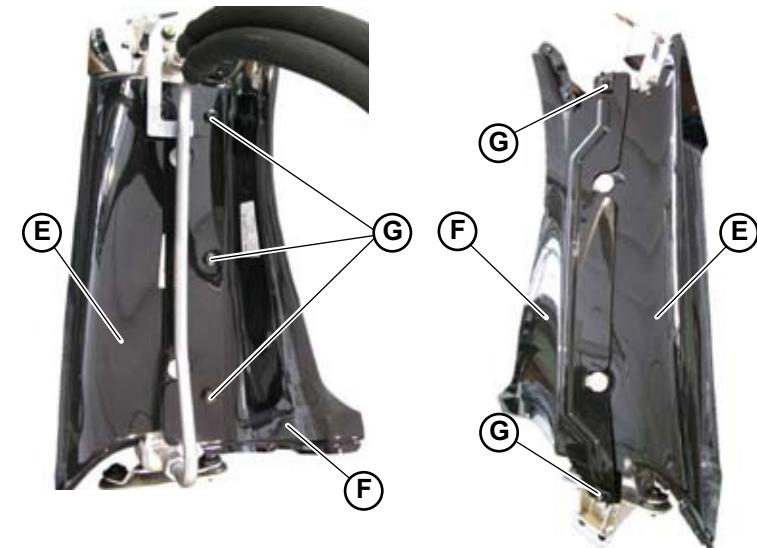

Fig.2
4. Loosen the specific 5 screws (G-Fig.2) to remove the front conveyor (E-Fig.2) and the rear conveyor (F-Fig.2).